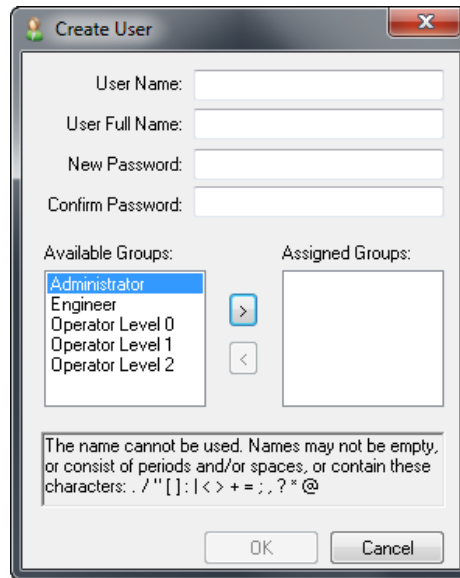

Figure 5-2. Create User Dialog
1. On the Configuration > Manage Users > Manage Local Users screen, touch the Create User button. The Create User dialog appears (Figure 5-2). Administrator access is required to set up user names and passwords.